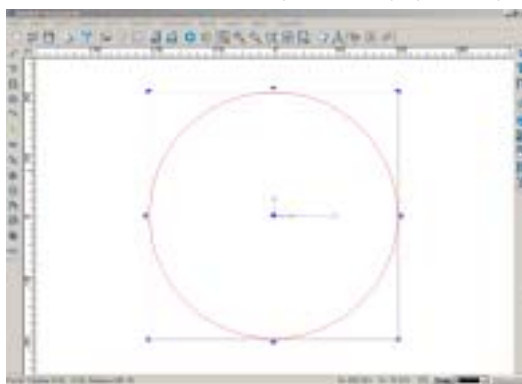

Fig. 10-17
1. Open a new file, and draw a circle in the drawing window. (Fig. 10-17)